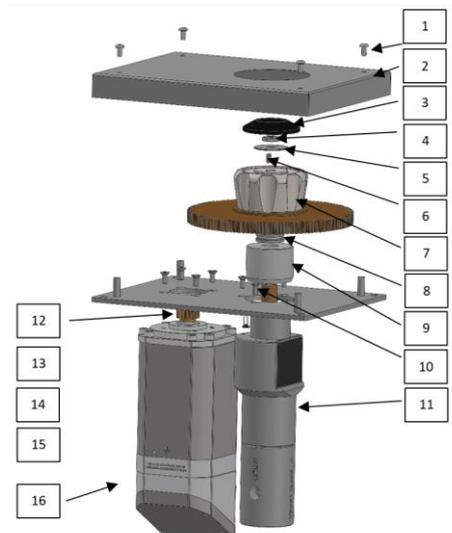

Figure 10: RPL-X26-Actuated
- Using the same Calibration Bolt (figure 10), assemble the Guide Ring. The Sleeve (10-01668) should enter the assembled Dump Valve. Insert this into the Piston Guide (10-01669).